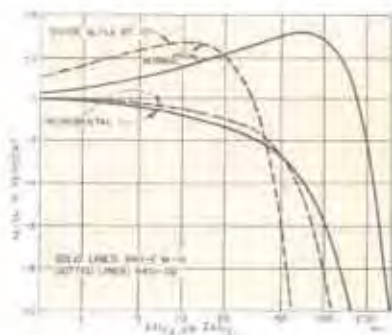

Figure 1. Percentage change in normal and incremental inductance with ac and bias current. Incremental curve is limited to an ac excitation less than  $I_0$ .
**Change in Inductance with Current:** Fractional change in initial inductance with ac current for each type of toroid is shown in the normal curves, Figure 1, in terms of the ratio of the operating current,  $I$ , to  $I_0$ , the current for 0.25% change, solid line (0.1%, broken line). For ratios below unity, inductance change is directly proportional to current. Values of  $I_0$ , listed below,
**Incremental Inductance:** Dc bias current  $I_0$  will reduce the initial inductance as shown in the incremental curves, Figure 1.